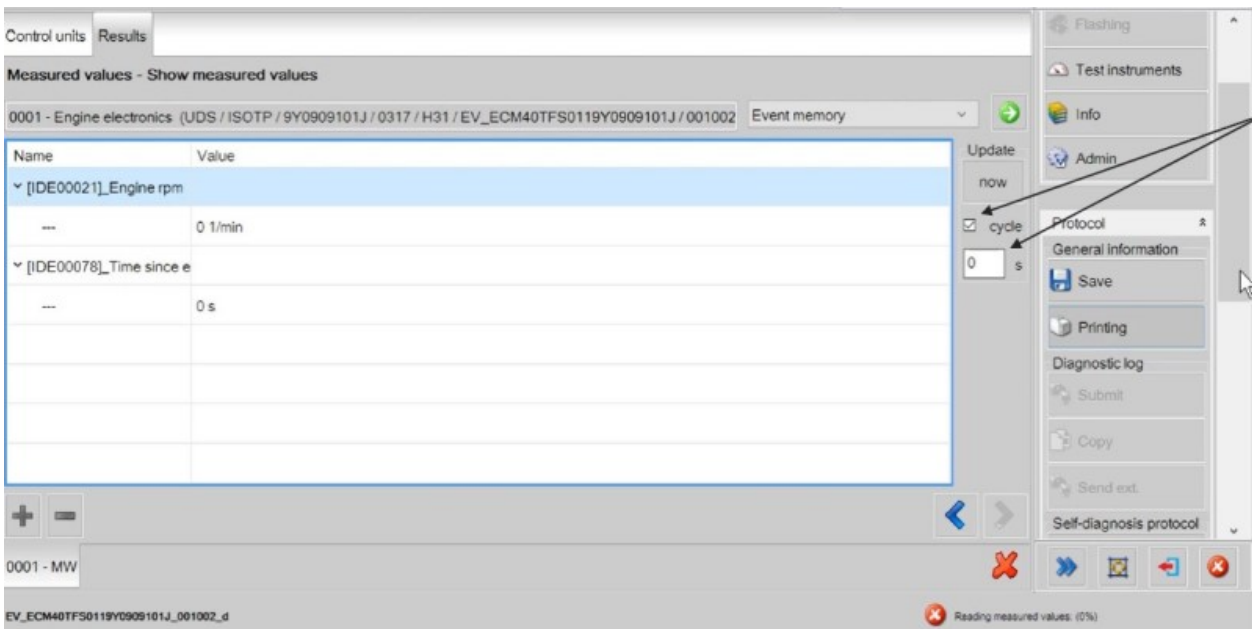

Figure 3
3) Referring to Figure 3 - Ensure Cycle is selected (ticked)